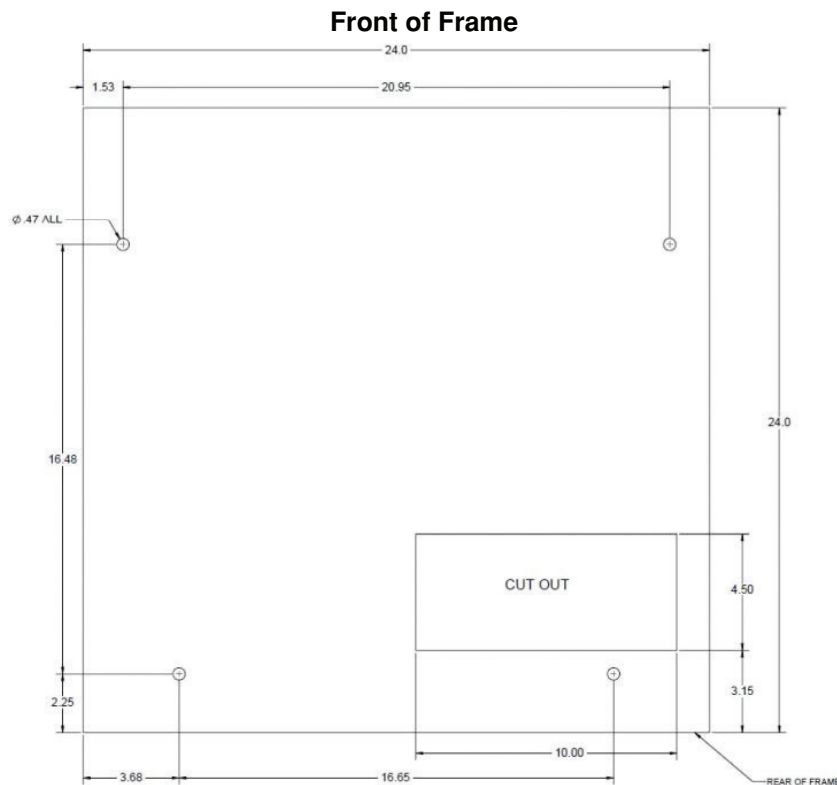

Figure 8
- 5.1.4.2 Perform the tile cut as shown in Figure 8.